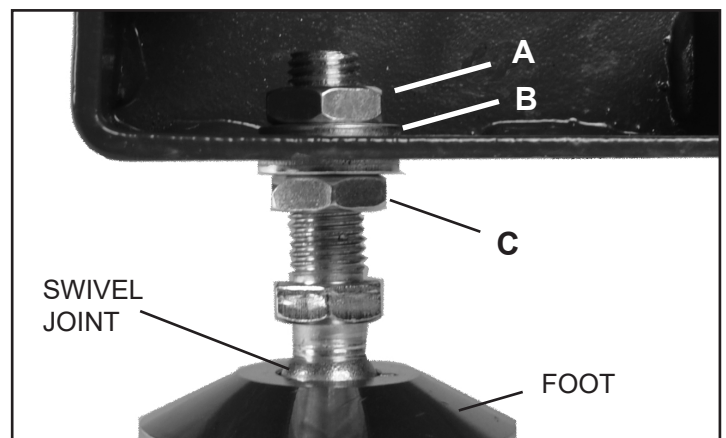

FIG. 3
2. The Adjustable Feet have two hex nuts and washers assembled on their threaded shafts. Remove the top nut and washer (Fig. 3, A) and leave the bottom nut and washer on the shaft. The bottom nut will be used to adjust the level of the lathe later on. Figure 3.
**NOTE:** Once the lathe is assembled and in its final location, adjust the bottom nut(s) (Fig. 3, C) that are right under the bottom of the foot to set your desired spindle height and to level the lathe. Once set, then tighten the top nuts to secure the adjustable feet in position.